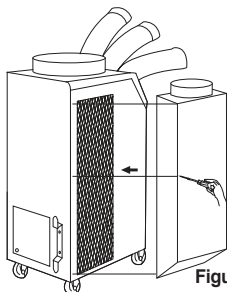

Figure 6
- 3.Use screws (enclosed inside of box with air adapter) to install the adapter on the air conditioner as shown in Figure 6.